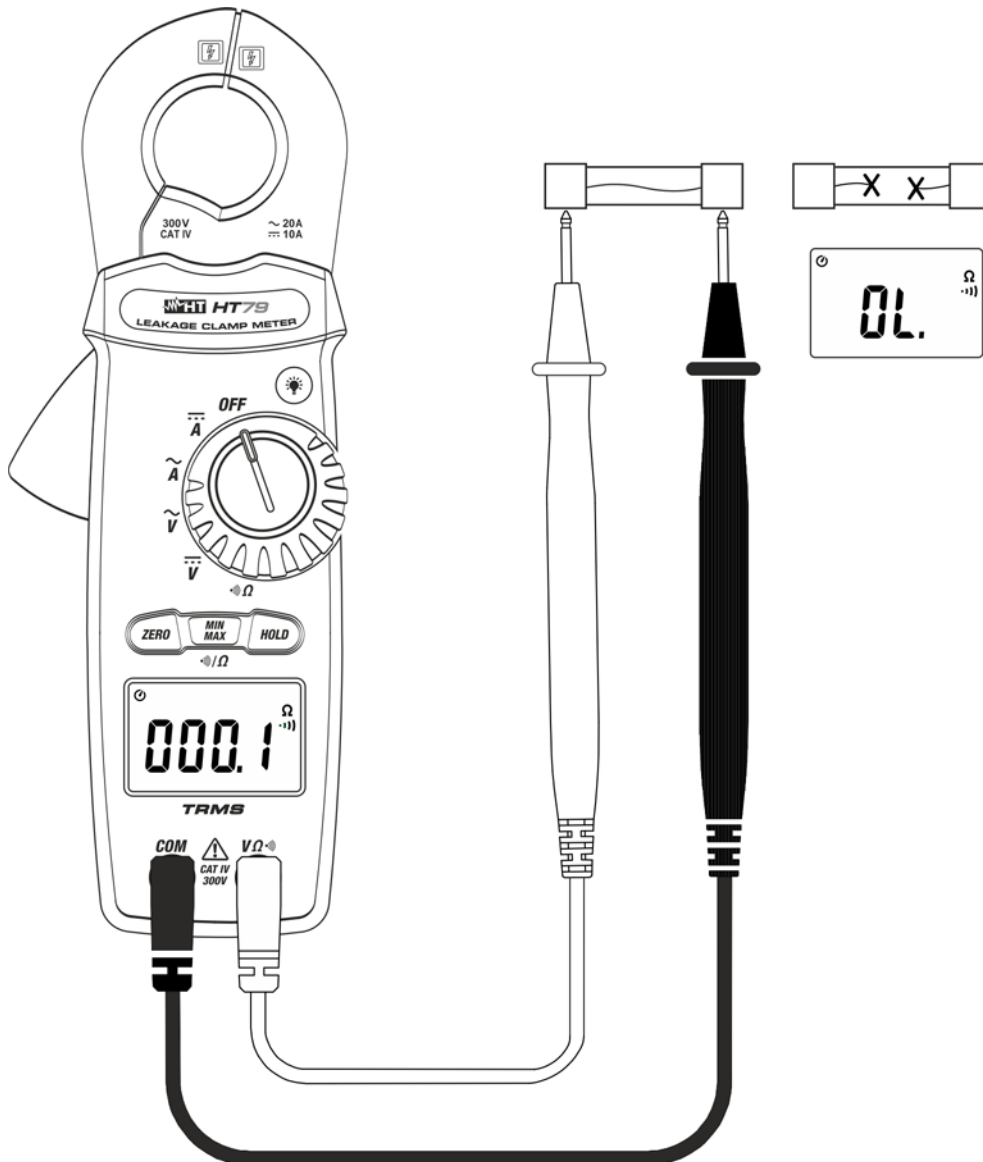

Fig. 7: Use of the instrument for Continuity test
3. Insert the red cable into input terminal **VΩ** and the black cable into input terminal **COM** and carry out the continuity test on the object to be tested (see Fig. 7). A buzzer sounds when the measured value of resistance is lower than 100Ω